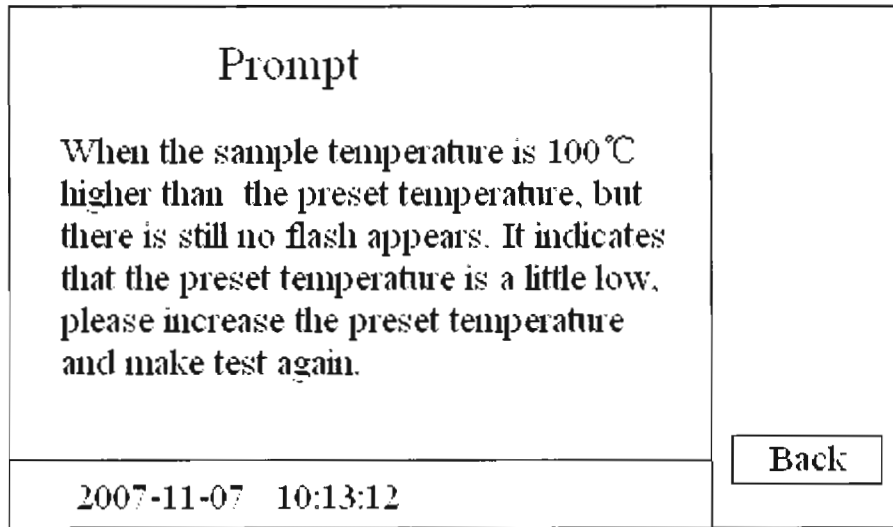

Fig.12
2. When the sample temperature is higher than the preset temperature plus temperature lag, but there is still no flash appears, the instrument will stop testing automatically. Then the test arm will be raised up and the test data will not be saved. Please make test again. The prompt interface is shown as Fig.12.